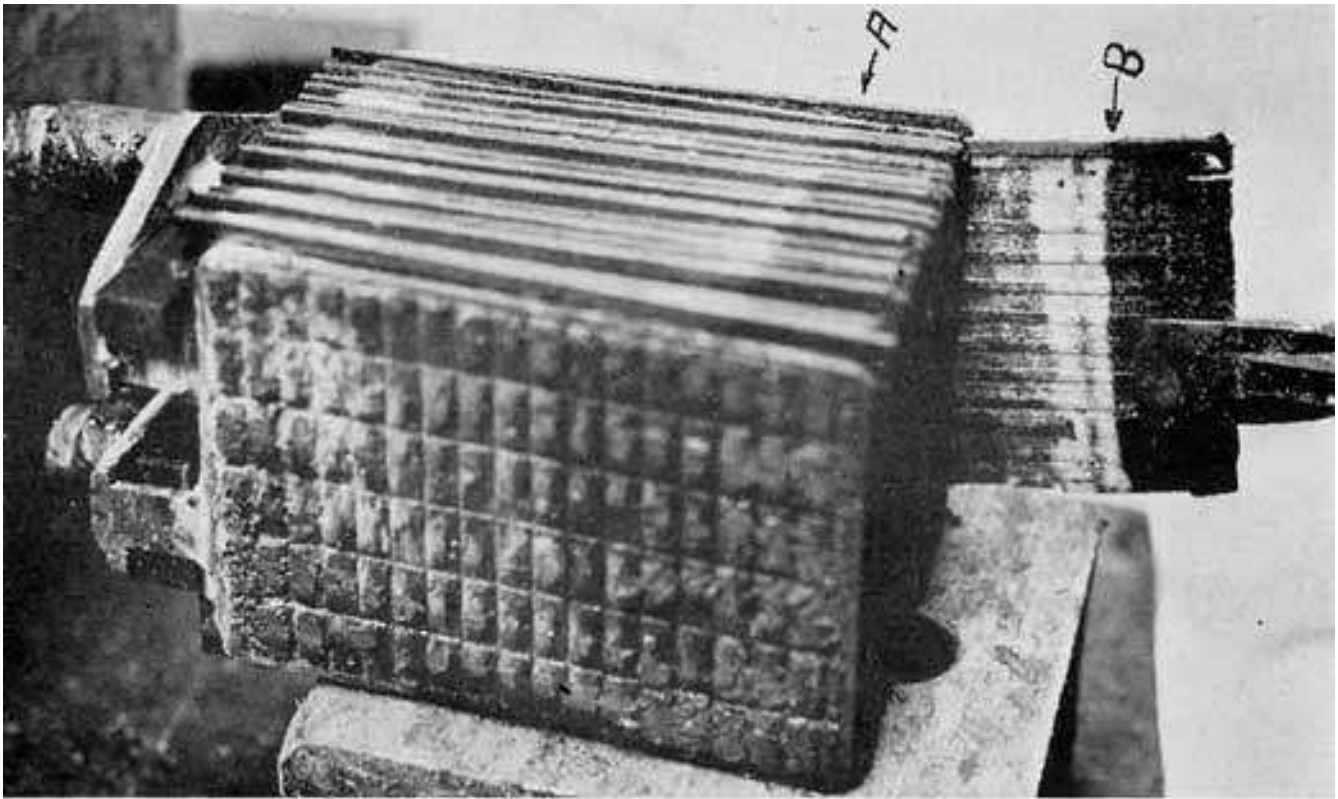
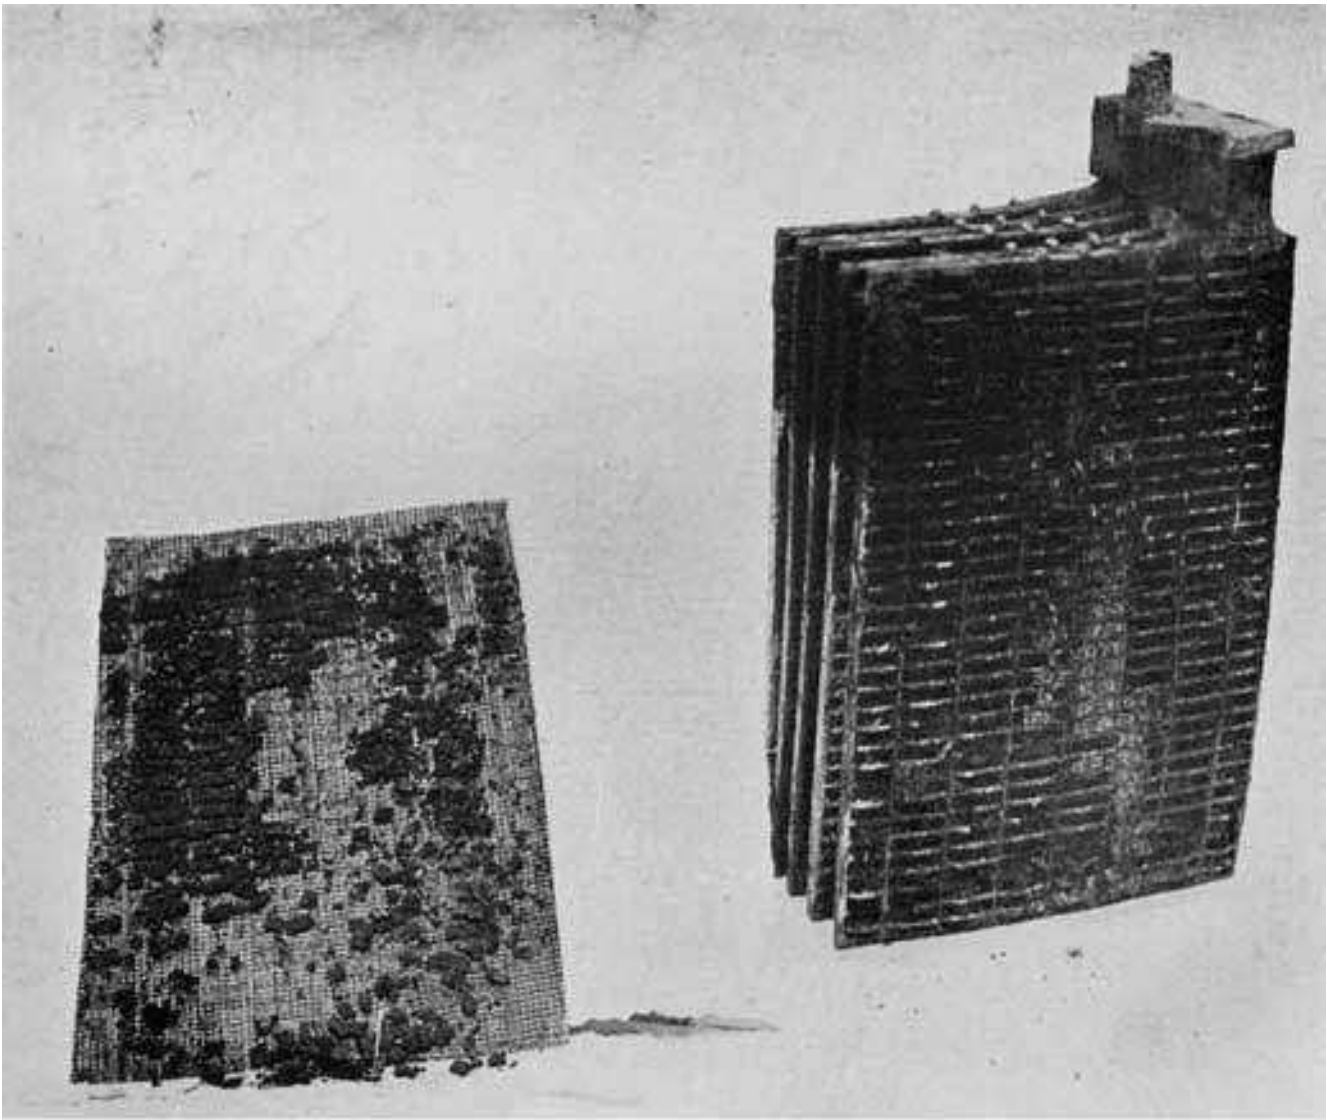

Fig. 201. Element on Block for Examination
Fig. 203. Positives from Frozen Vehicle Cell. Note Active Material Sticking to Separator
Place an element on a block of wood as shown in Fig. 201. Carefully pry the plates apart so that you can look down between them and make a fair preliminary examination. Whenever possible, make your examination of the plates without separating the groups or removing the old separators. This should be done because:
**1. If one or more jars are cracked and leak, and positive plates have been ruined by freezing,** as shown in Fig. 203, and if upon drawing out the separators, and separating the positive and negative groups the active material drops out of the grids, the only way to put the battery in a good condition is to put in 'new positives, and new jars and case if necessary.
**4. A battery which has has been dry and badly sulphated** at some past period of its life will have tile dry portion.", covered with a white sulphate, tile acid line being clearly distinguishable by this white color, as shown at A and B in Fig. 201. If the plates are otherwise ill good shape and you wish to use them, give them the "water cure" described on page 349.
**7. Dry, hard, and white, long discharged, and badly sulphated plates**, Figs. 201 and 209, are practically ruined, though if the trouble is not of long standing, the plates may be revived somewhat by a long charge at a very low rate, using distilled water in place of the electrolyte, and then discharging at a current equal to about one-eighth to one-tenth of the ampere hour capacity of the battery at the discharge board. Charge and discharge a battery a number of times, and you may be able to put a little "pep" into it. In charging sulphated plates, use a low charging rate, and do not allow gassing before the end of the charge, or a temperature of the electrolyte above 110°F.
1. Whenever the pores are closed by any foreign matter whatsoever. Put in new separators whether you can figure out the cause of the trouble or not. The separator shown in Fig. 201 is sulphated clear through above the line B, and is worthless. The separator shown in Fig. 203 should not be used again.
Through on Edges by Buckled Plates. Holes Worn Through by Bulged Active Material. Center One Shows Cell Was Dry Two Thirds of the Way Down electrolyte has been below the tops of the plates, or the battery has been used in a discharged condition, and lead sulphate has deposited on the separators, Fig. 201.
2. There is another case where the groups must be separated and new separators inserted before they will take charge, and that is where the battery has suffered from lack of water and has sulphated clear through the separators, Fig. 201. The separators will be covered with white sulphate. Chemical action is very sluggish in such cases.